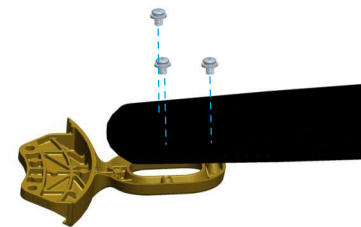

Fig 1.1
1.1 Locate 15 blade attachment screws in the hardware pack. Secure each blade to the blade bracket using the blade screws as shown in Fig 1.1.